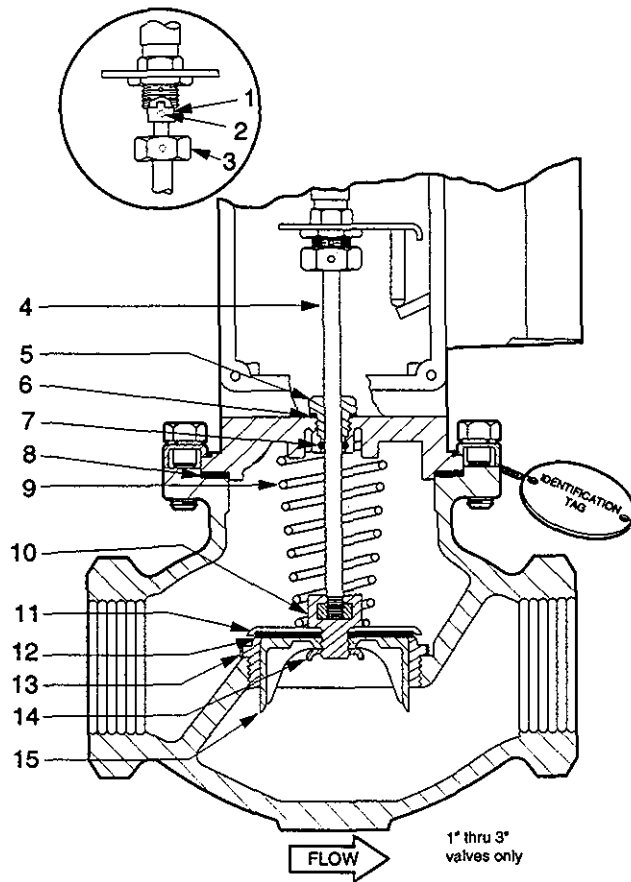

**Figure 5. Stem Nut Adjustment**
1. In order to obtain proper seating pressure and correct valve lift, distance from actuator shaft to stem nut must be in accordance with value in table 1. Dimension "A" is measured with valve stem in DOWN position (closed) and actuator shaft in UP (energized position) (see figure 5).